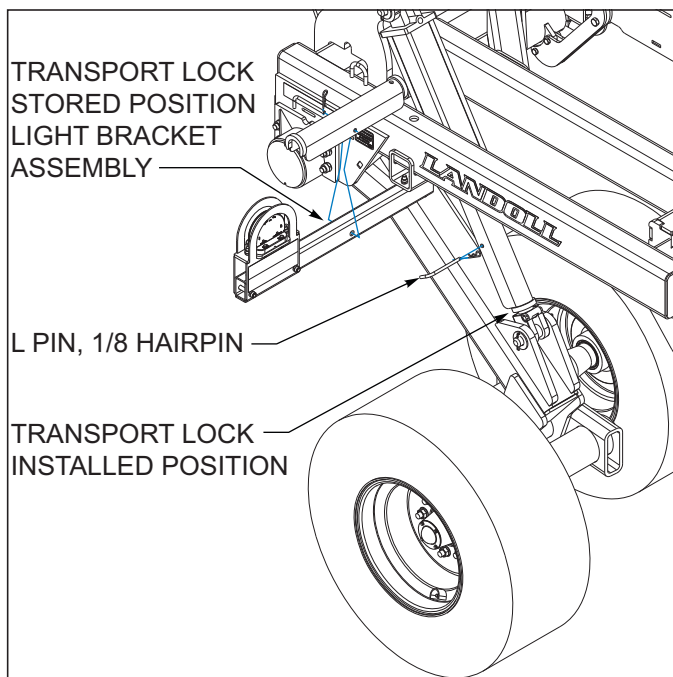

Figure 4-5: Transport Locks
1. Raise the unit to take the weight off of the transport locks. Remove the transport locks from the lift cylinders. Store the transport locks on the light bracket assemblies *See Figure 4-5*.